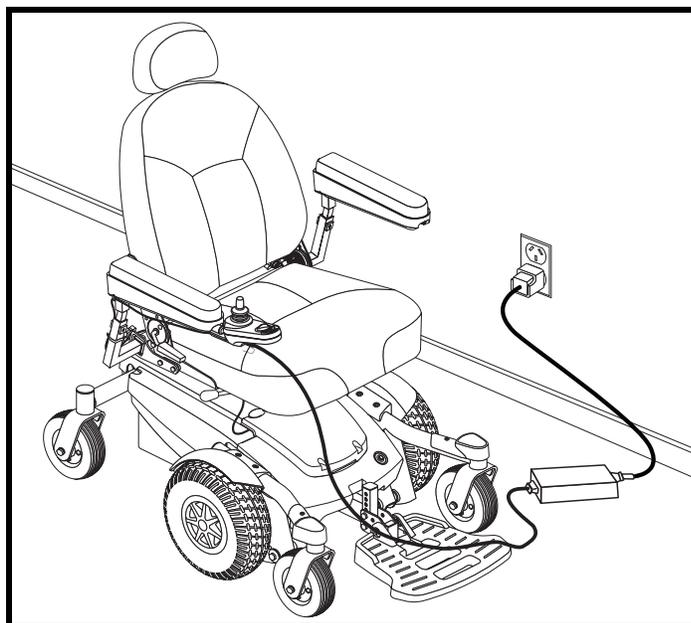

Figure 23. Battery Charging (Select 6 Shown)
3. Plug the off-board charger into the off-board charger/programming socket on the controller. **See figure 23.**